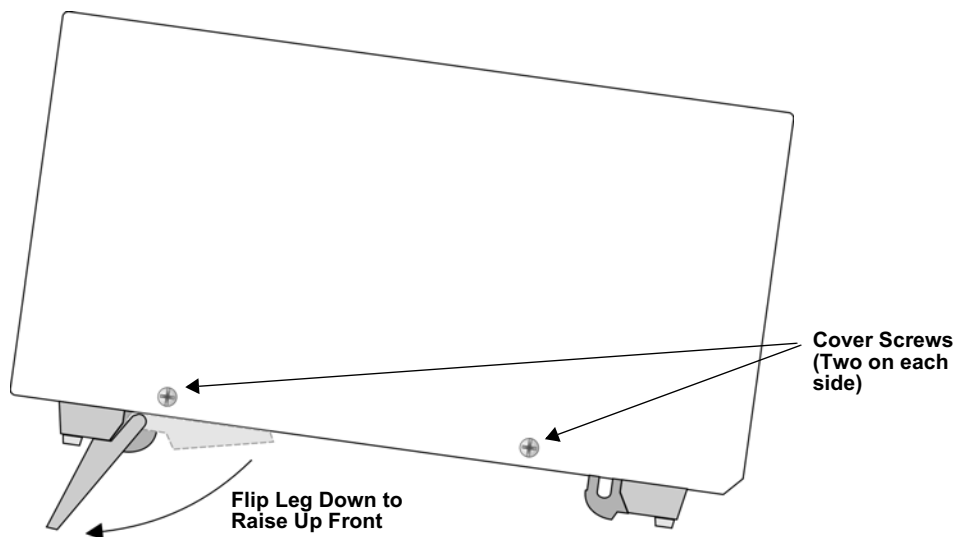

Figure 3-4 Side View
1. Remove the 9500 cover by unscrewing the four cover screws located on the both sides of the receiver. (See Figure 3-4 for the cover locations.)
1. Remove the 9500's cover by unscrewing the four cover screws located on both the sides of the receiver. (See Figure 3-4 for front plate retaining screw locations.)
1. Remove the cover of the 9500 receiver by loosening cover screws. (See Figure 3-4 for cover screws locations.)
5. Replace the cover of the 9500 receiver. (See Figure 3-4 for cover screws locations.)